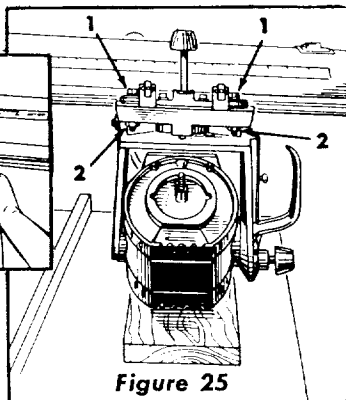

Figure 25
4. Loosen nuts (Item 2, figure 25) one or two turns.
5. Turn adjusting screws (Item 1, figure 25) a partial turn left or right as required to take up looseness.